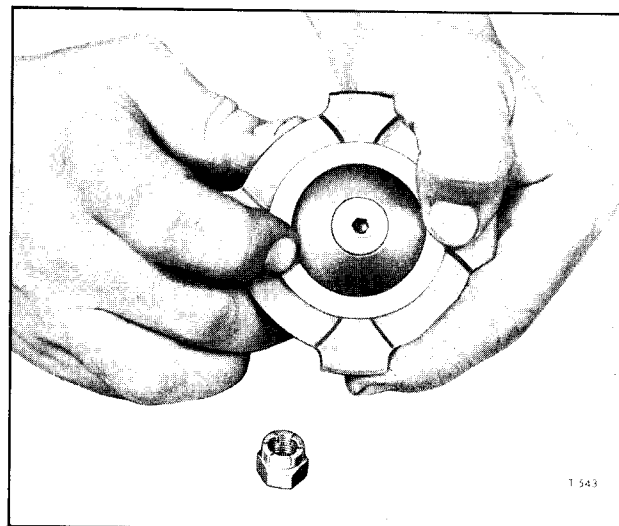

Figure 52—Checking Discharge Valve Movement
1. Place the valve springs (51) into valve cage (52) and lay the valve ring (50) over the top of the springs. Insert the valve seat (49) and bolt (48).
2. Work the valve ring up and down to make sure it is free to move as shown in figure 52.
3. Attach lock nut (53) and tighten to 23 foot-pounds torque.